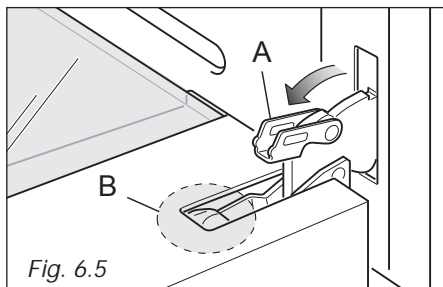
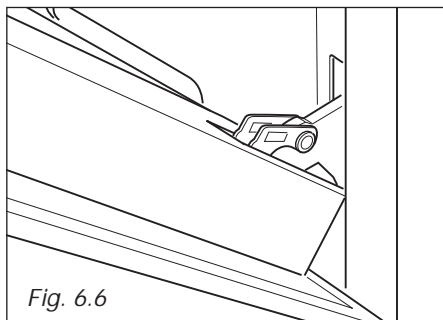

Fig. 6.5
Fig. 6.6
- Fully open the lever **A** on the left and right hinges. (Fig 6.5).
- Gently close the door (Fig. 6.6) until the left and right hinges are hooked to part **B** of the door (Fig. 6.5)